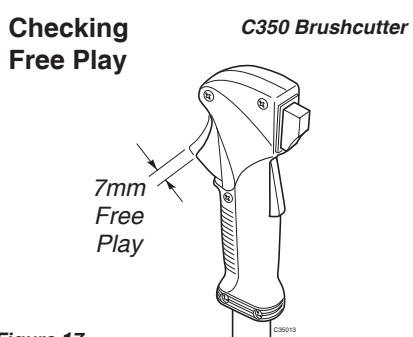

Figure 17
2. Test the throttle lever for proper "free play" of approximately 7mm in the idle position. See Figures 17 and 18. If necessary, adjustments can be made at the carburetor by: